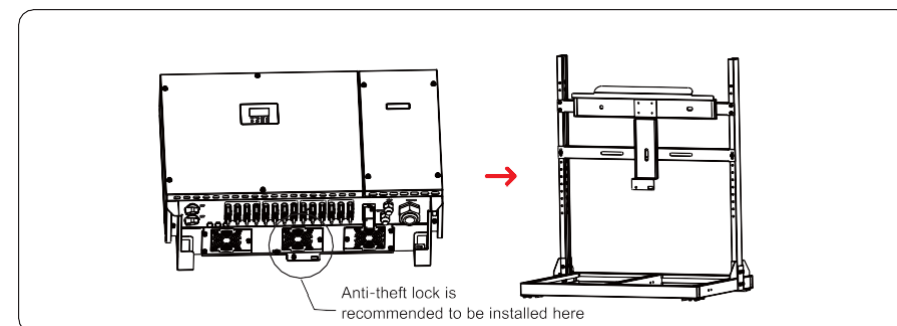

Figure 4.11 Tightening the inverter
**Step 3** Mount the inverter on the support and tighten the inverter with rear panel using screws, as shown in Figure 4.11.